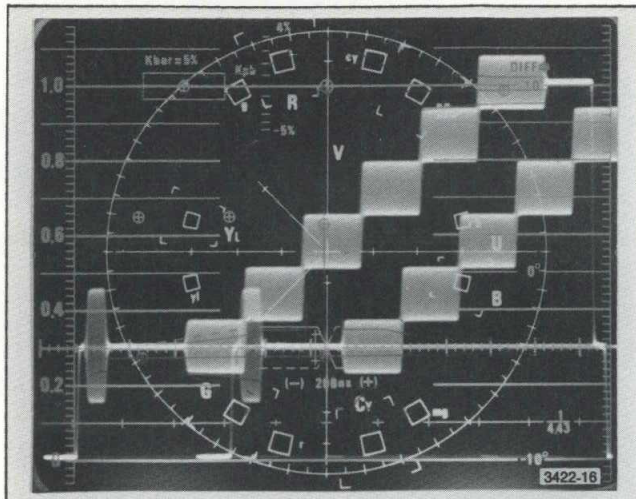

Fig. 3-17. Test Signal Overlay Display.
2. Turn the OVERLAY control clockwise until the segments of the waveform to be observed are overlaid (Fig. 3-17).